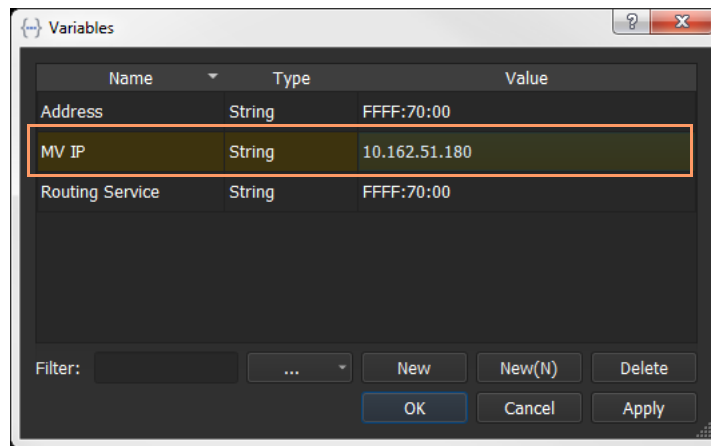

Fig. D-18: Properties Dialog with New Variable Defined
- 2 Create a new variable, for example 'MV IP', and set its value to be the IP address of the multiviewer sourcing the H.264 IP streams. See Figure D-18.